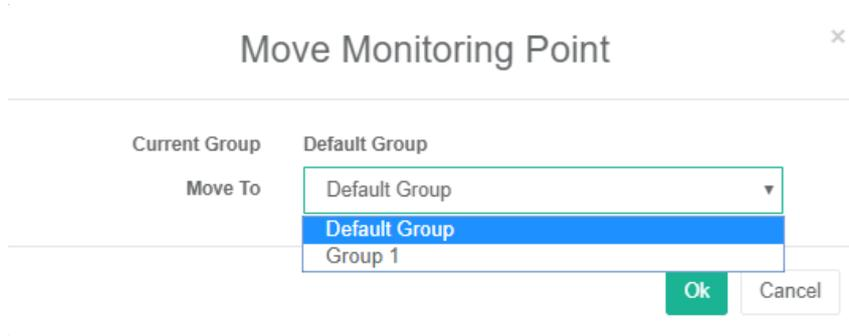

Figure 5-9
- 2) Click "Move" to open group list as shown in Figure 5-9;